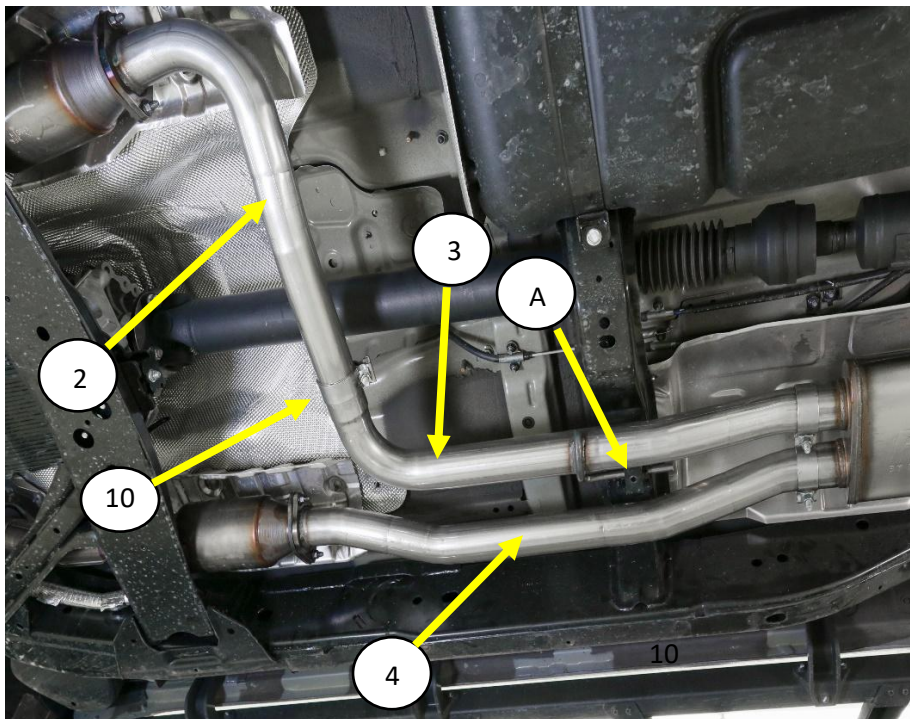

Figure.3
7. Install a 2.5" band clamp **(10)** on to each muffler inlet pipe. Position with the bolts in the center and nuts facing down. **Fig.3**